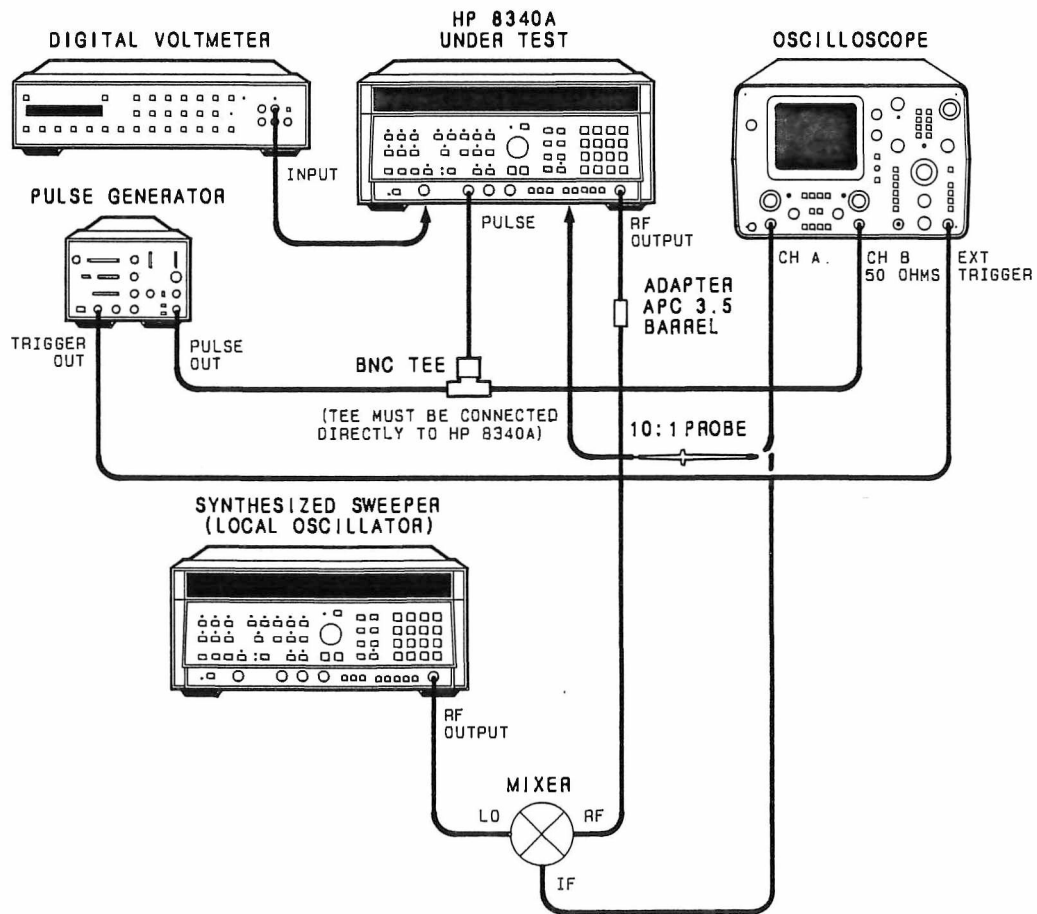

Figure 5-63. Pulse Adjustment Setup
1. Connect equipment as shown in Figure 5-63. Allow at least 30 minutes warmup.